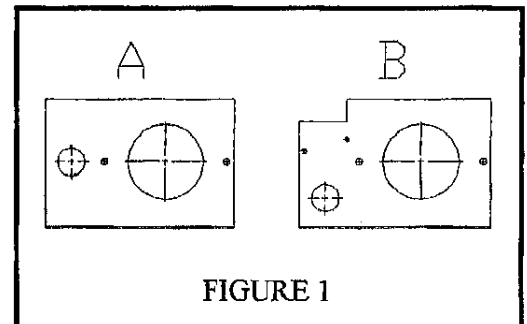

FIGURE 1
1) The first step requires determining which type of Piezo Bracket is being worked with. The Tucson has a Piezoelectric spark igniter (the red push button located next to the gas control valve behind the valve access door) which ignites the pilot light by means of a spark at the pilot light assembly. Open the valve door located on the lower front of the stove. The Piezo Bracket is positioned on the right side of the valve assembly, with the Piezo igniter mounted to it. Refer to Figure 1 to determine which bracket it is. If working with bracket A begin the procedure at Step 2. If working with bracket B begin the procedure at Step 4.